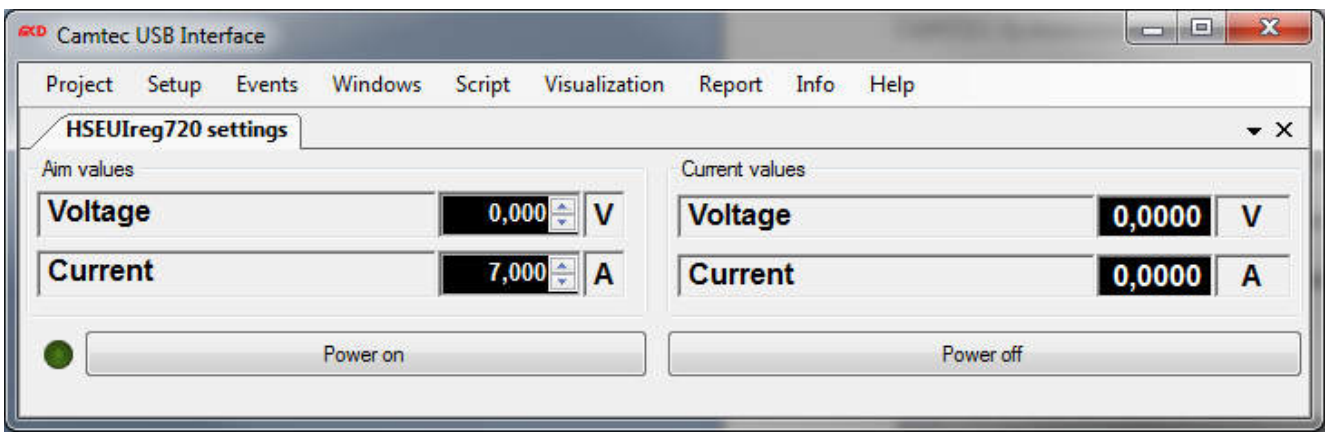

Figure 4 Voltage & current programming / confirm power supply ON
6. Input the desired voltage value and the maximum current with the up/down buttons of the computer keyboard (Figure 4).
7. Switch on the power supply using the on-screen button „Power Supply On“ (Figure 4).